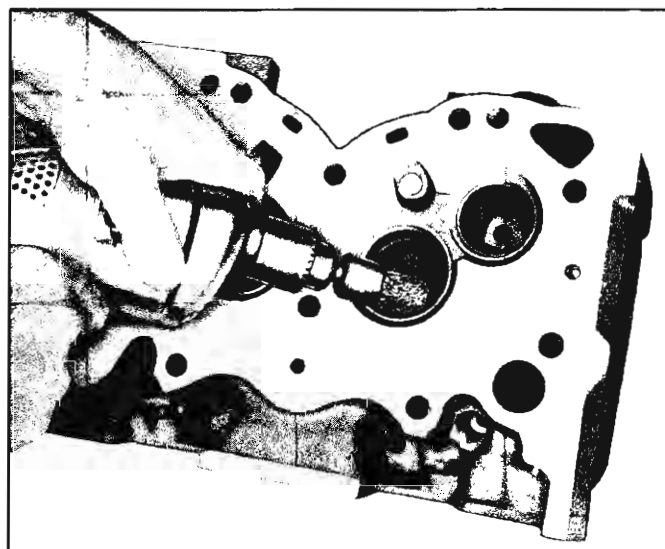

Fig. 118—Removing Carbon from Valve Chambers
1. Clean all carbon from combustion chambers and valve ports using Tool J-8089 (fig. 118).